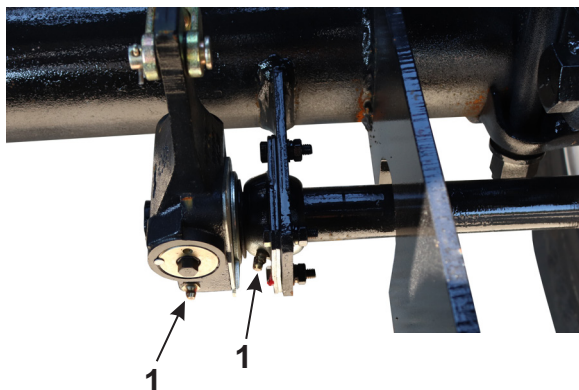

Figure 4-10 – Brake Actuator Rods and Bushings
- c. Grease brake actuator rods and bushings (1, **Figure 4-10**).